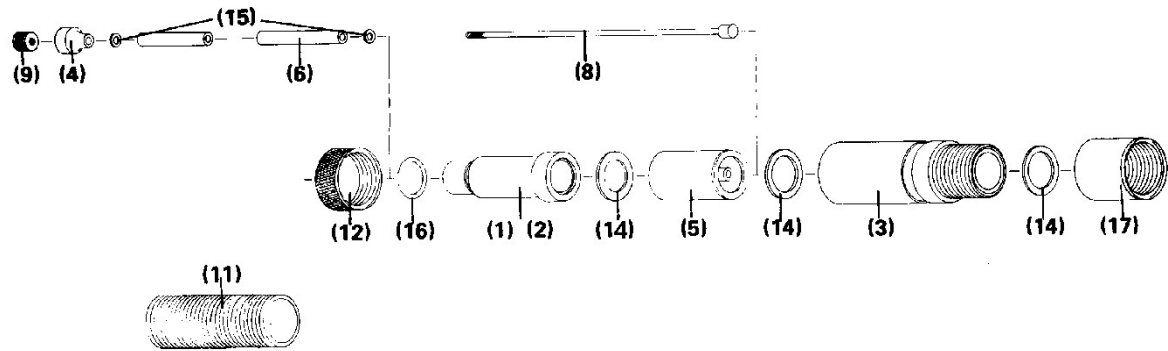

FIGURE 4: SPARE PARTS
**SPARE PARTS TABLE (SEE FIGURE 4)**